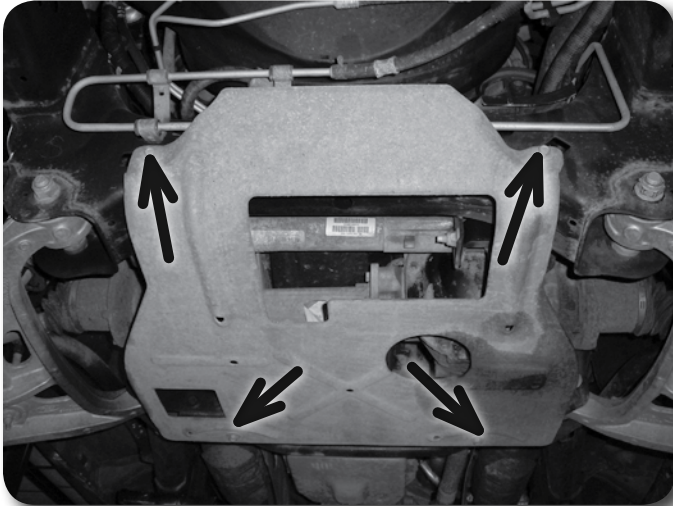

Figure 1
7. Remove the factory skid plate (if equipped). Figure 1